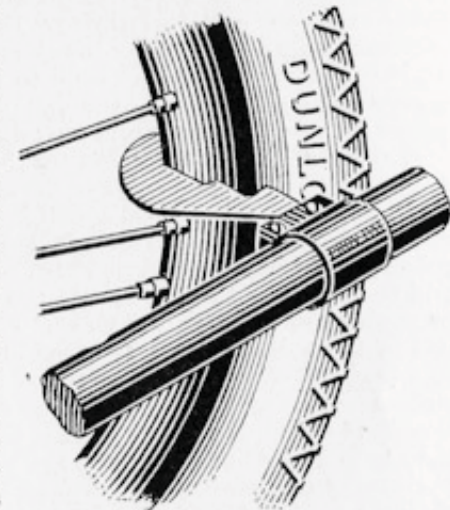

FIG. 38. REAR WHEEL ALIGNMENT GAUGE (1932-5 Heavyweight(s))
**Rear Wheel Alinement.** On the right-hand side of the bottom chain stay is a piece of sheet metal, held in position by a clip, on some 1932-5 A.J.S. models. In the tool kit will be found a flat gauge that can be fitted round the rim (see Fig. 38). When replacing the rear wheel after removal, or after making a chain adjustment, place the gauge on the rim with the extension to the right, and set the wheel so that the edge of the gauge just touches the plate that is held in position by the clip on the chain stay. This ensures the wheel being correctly alined, and must be done before finally tightening up the spindle nuts. Do not attempt to unscrew the clip from the chain stay, as the position of the plate is set correctly before the machine leaves the factory. It is important that the gauge should bed properly on to the rim on both sides; the best method of ensuring this is to see that the hooked end is properly encircling the bead of the rim. Then pull the gauge end into place firmly. Some pressure is necessary to apply the gauge when the tyre is highly inflated.